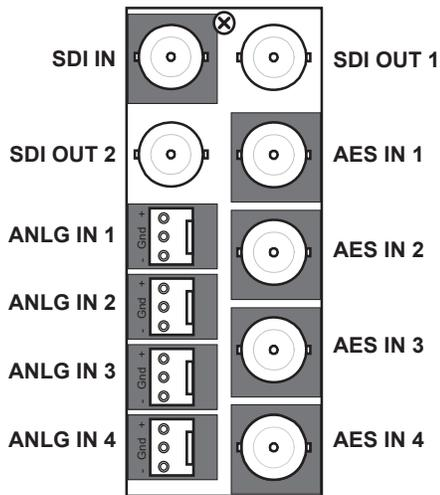
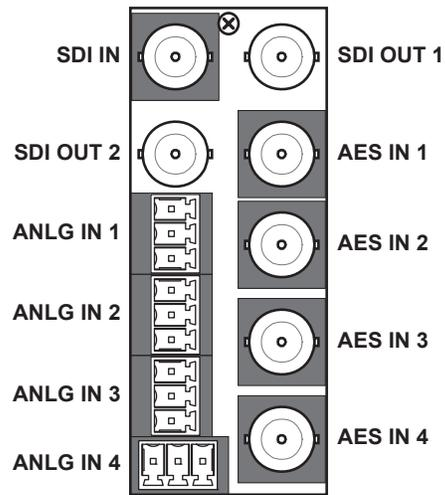

Figure 29 Cabling — 8320AR-058-03
Figure 30 Cabling — 8320AR-058-04
**Figure 29** illustrates the cabling designations for 8320AR-058-03 rear module. **Figure 30** illustrates the cabling designations for the 8320AR-058-04 rear module.